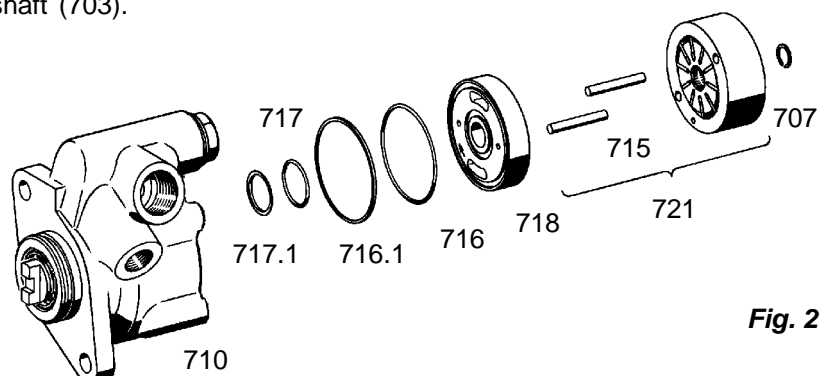

Fig. 27
Fit sealing parts (716, 716.1, 717 and 717.1) in pressure plate (718) (**Fig. 27**).